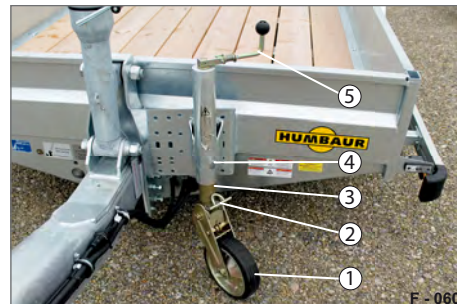

Fig. 33 Semi-automatic support wheel
- ▶ Fold out the crank (Fig. 33/5). Press against the spring.
- ▶ Crank clockwise until the eye (Fig. 33/2) is above the hook (Fig. 33/4). Position the wheel by hand, if necessary.
- ▶ Crank anti-clockwise until the support wheel (Fig. 33/1) is completely raised. The support wheel will be tensioned.
- ▶ Fold in the crank (Fig. 33/5). The support wheel is raised and secured.
- ▶ Crank clockwise until the eye (Fig. 33/2) can be taken out of the hook (Fig. 33/4). Pull the wheel out by hand, if necessary. The support wheel is unlocked.
- ▶ Crank anti-clockwise until the support wheel (Fig. 33/1) is sitting on the ground.
- ▶ Fold in the crank (Fig. 33/5). The support wheel is lowered and supports the tube drawbar/trailer.